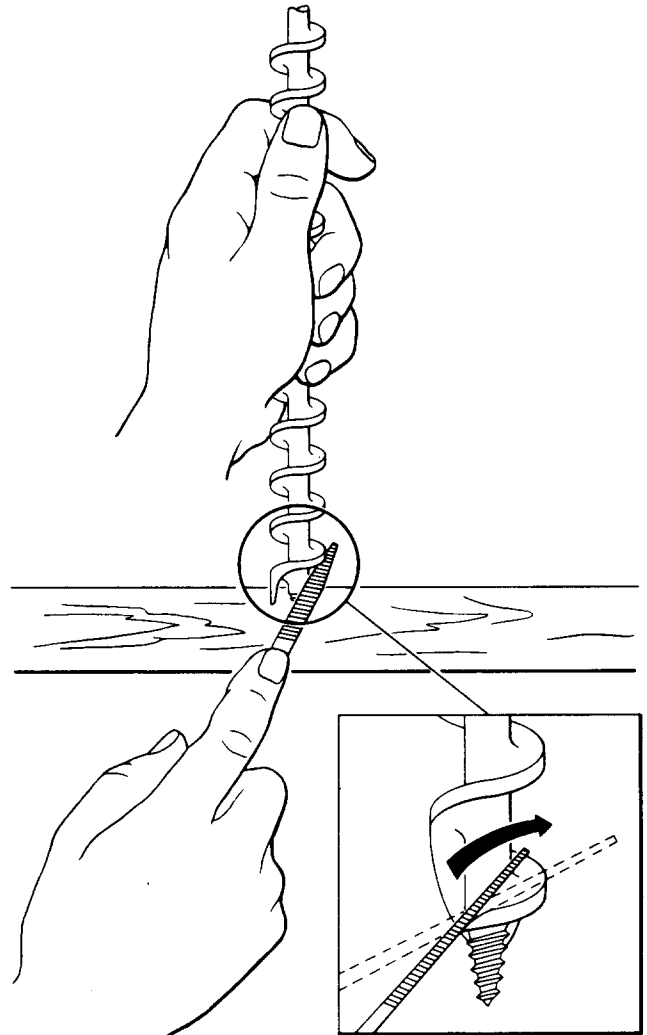

Fig. 8 — Sharpening the Cutter
5.06 To resharpen a cutter, rest the bit on a board with the screw down so the cutting edge is parallel with the edge of the board. See Fig. 8. Sharpen the cutting edge, using light strokes, to a straight line keeping the bevel as near as practical the same as it was when new.